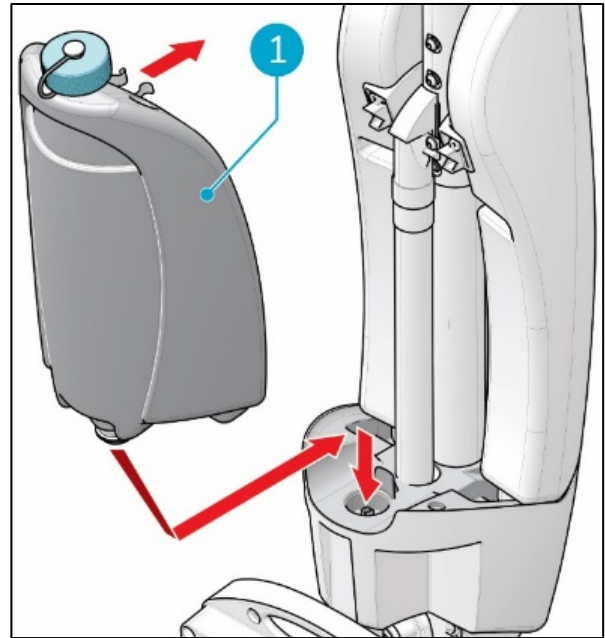

Figure 12
1. Put the tank (Figure 12, pos 1) on the i-mop® XXL pro with the valve first.